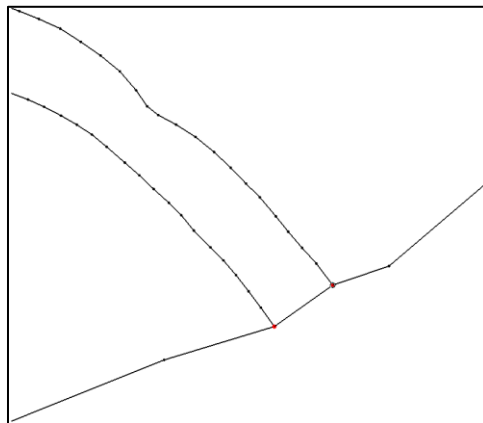

Figure 4 Adjusted outflow boundary.
8. Using the **Select Objects**  tool drag the two nodes to make the segments approximately the same length (Figure 4).